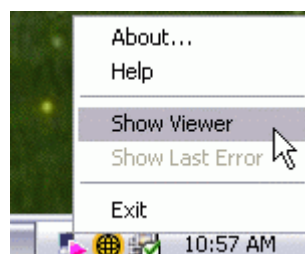

Figure 4.17. Displaying the MonitorWorX Viewer
2. To display the MonitorWorX user interface, right-click on the MonitorWorX icon in the Windows taskbar and select **Show Viewer** from the pop-up menu, as shown in **Figure 4.17**.